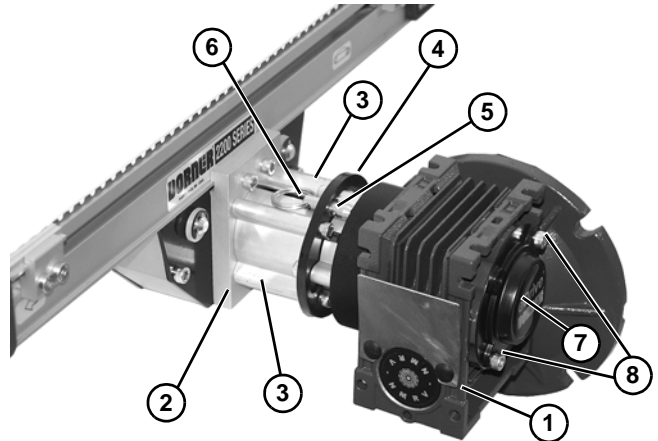

Figure 13
3. Raise gearmotor assembly (**Figure 13, item 1**) into position on shaft (just installed) and on mounting block (**Figure 13, item 2**). Install two long side drive couplings (**Figure 13, item 3**) and mounting ring (**Figure 13, item 4**) with four M6x70 socket head screws (**Figure 13, item 5**). Tighten screws to 60 in-lb (7 Nm).
4. Install quick release pin (**Figure 13, item 6**) into mounting ring to secure position.
5. Install motor onto gearmotor assembly (**Figure 13, item 1**). Tighten M6 motor mounting screws to 60 in-lb (7 Nm).
6. Install cover (**Figure 13, item 7**) with two M4 socket head screws (**Figure 13, item 8**). Tighten screws enough to secure cover.